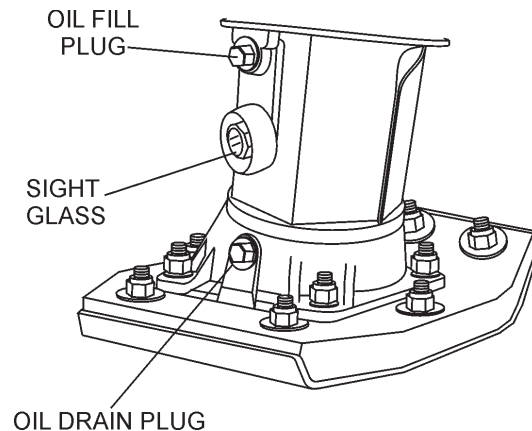

Figure 13. Foot Housing Drain Plug
- Drain oil reservoir on foot housing (Figure 13). Refill with approximately 1.7 pt. (800 cc.) of 10W-30 SE, SF or higher grade motor oil. Oil should be midway in sight glass. Break in oil should be changed after first 50 hours.